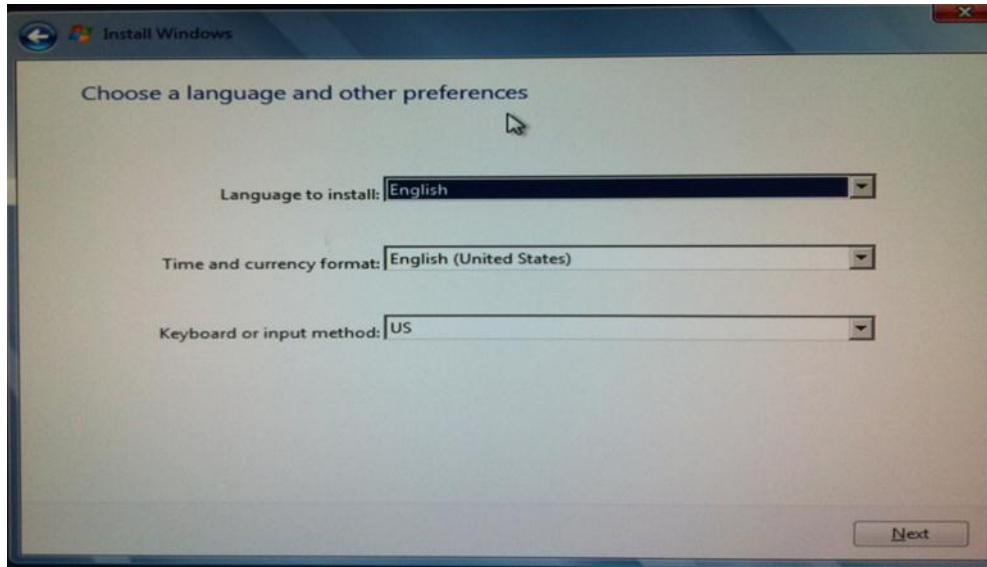

Figure 27: Choose a language and other preferences
6. Select your preferred language and keyboard region as shown in Figure 27.